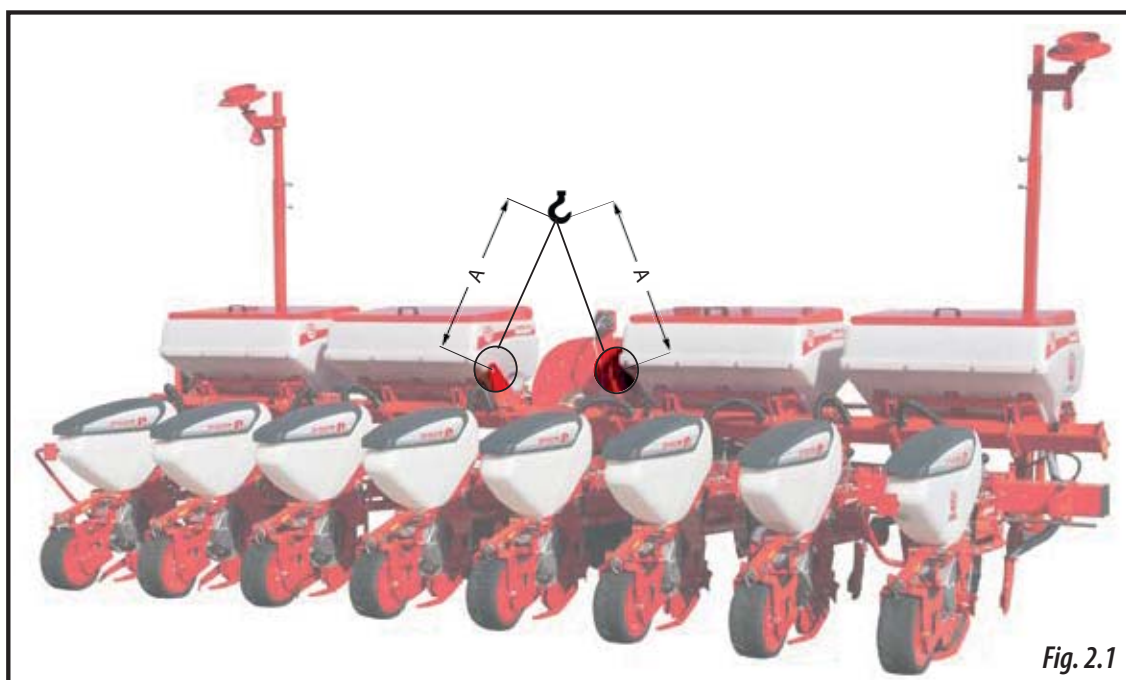

Fig. 2.1
- In Version **FIXED, VARIANT MANUAL, TELESCOPIC, VARIANT and VARIANT IDRA**, the operations of **LOADING** and **UNLOADING** must be performed using 2 points (Fig. 2.1).
**WARNING:** PLEASE RESPECT THE DISTANCES **A** (2 METRES) IN ORDER TO PREVENT DAMAGES TO THE MACHINE DURING THE RAISING OPERATION (Fig. 2.1).